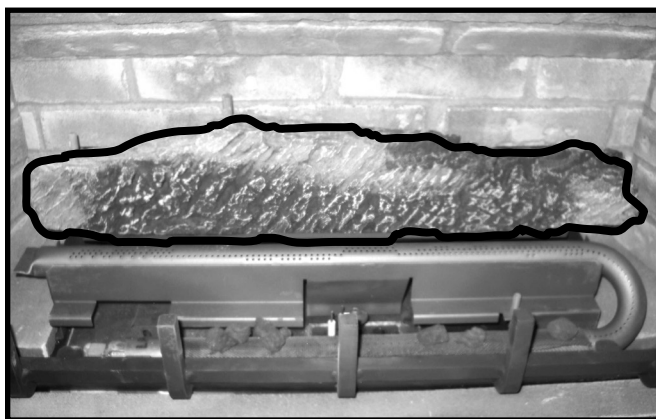

Figure 27. Rear Base Log, PN 223994
2. Install the Rear Base Log on pegs on the rear skirt. Fig. 27.